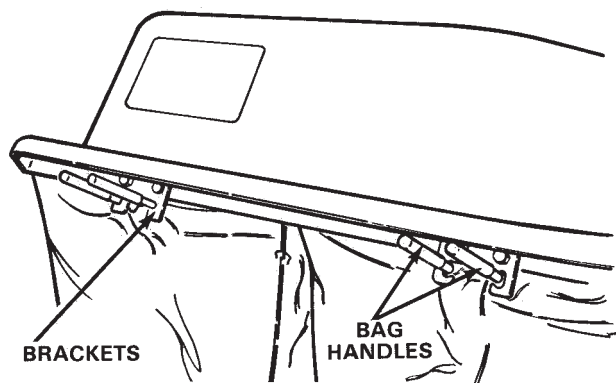

Figure 9
4. Lift rear of bag up to bag cover. Squeeze bag handles, allowing them to be positioned in bag frame brackets. Release bag handles, locking them in brackets (Fig. 9).